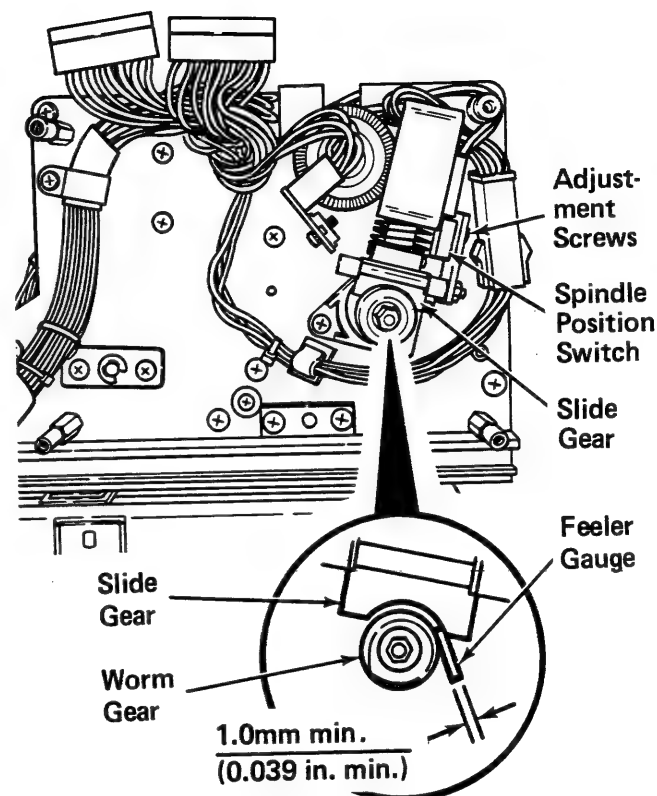

Figure 3-10.1A
9. Lift the Slide Gear (Figure 3-10.1A). The Hub should move to the front.
1. Loosen both Adjustment Screws securing the Spindle Position Switch (S2). See Figure 3-10.1A.